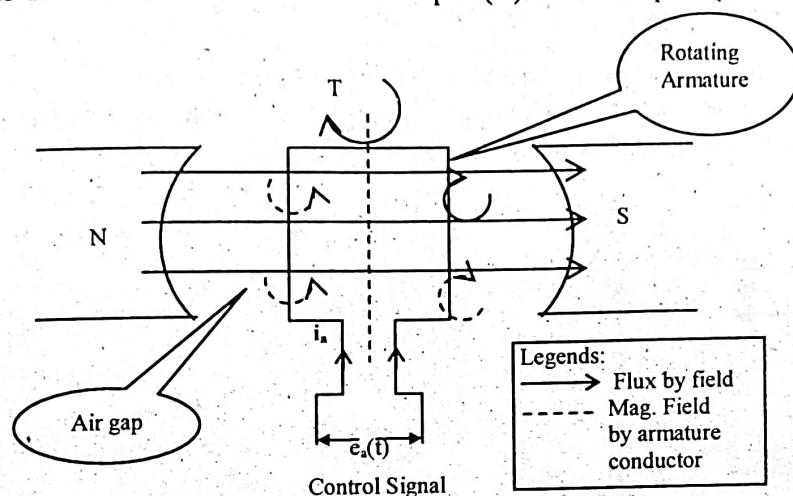

Fig: 1(a) Generation Torque
- The magnetic field generated by the armature circuit interacts with magnetic field due to the field circuit. As a result a torque ( $T$ ) is developed (shown in the figure 1(a)).
But, in a d.c. servomotor field winding is operated in linear portion of magnetization curve (fig. 1(b))